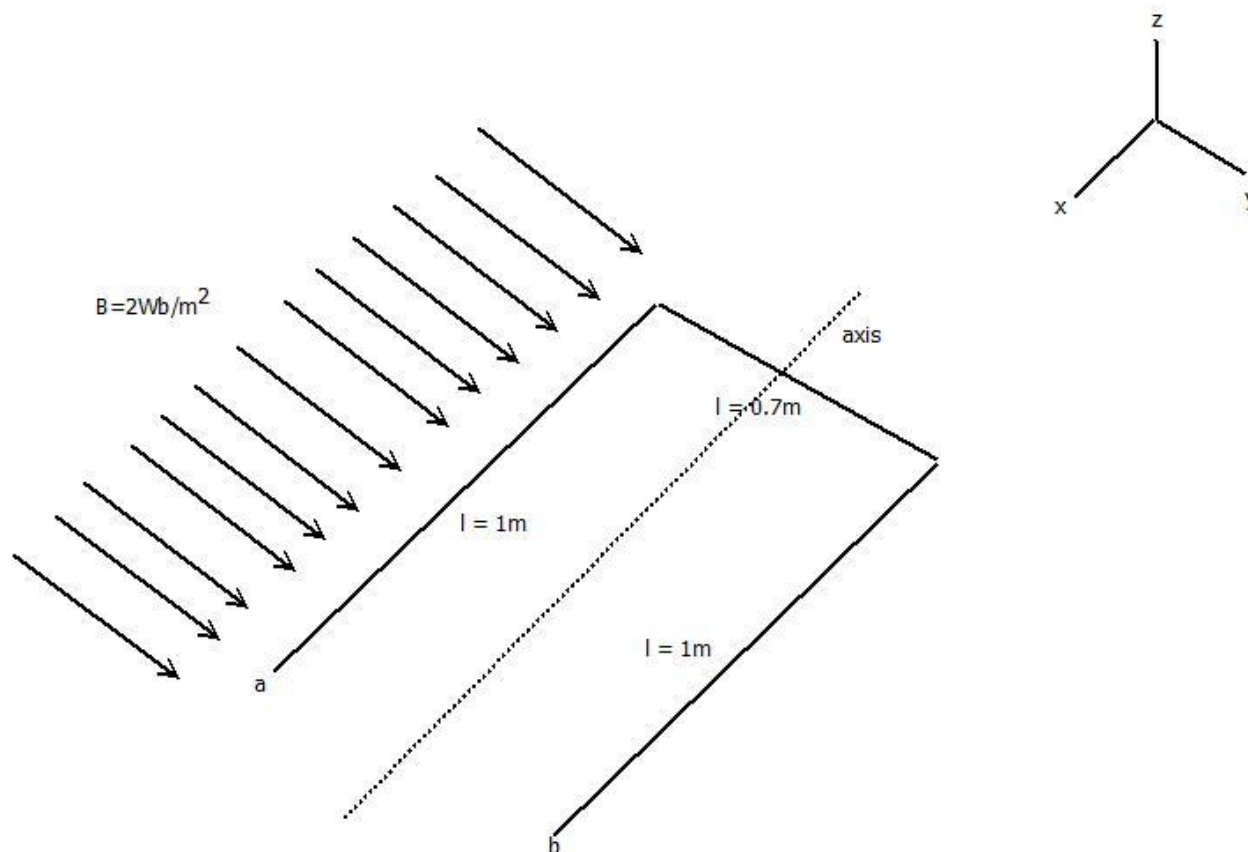

Figure 2.11: A single loop rotating inside a magnetic field
5. A single conductor is rotating counter-clockwise around the axis as shown in *figure 2.11*. Magnitude of rotation velocity is 2m/s. How much voltage will be induced at the ends of conductor (ab) if position of conductor is as shown in the figure? Also mention what will be the polarity of the two ends.